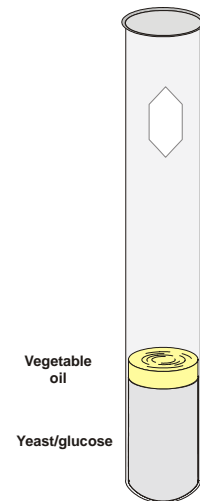

Figure 3
6. In the test tube, place enough vegetable oil to completely cover the surface of the yeast/glucose mixture as shown in Figure 3. Be careful to not get oil on the inside wall of the test tube. Set the test tube in the water bath.